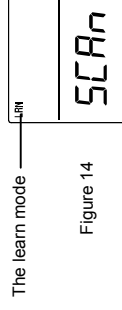

Figure 14
- Press LRN/SCAN key about 2 seconds to start the 6 seconds learning reception to detect new power monitor(s). The "LRN" sign and "SCAN" will be displayed during the process. (Figure 14) Press once more to confirm and store the detected channel.